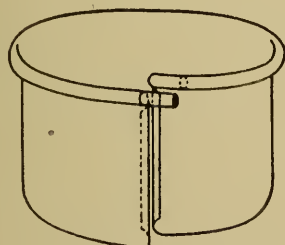

FIG. 3.
5. Place pieces together with burr side of holes up (Fig. 3), and rivet as shown by instructor by beginning at the ends and finishing at the center.
5. Place wire in the turned edge of the metal, (Fig. 2) and finish covering the wire, using wiring machine. (Fig. 3.)
14. Bend laps on prick marks 5 and 6 and place inside. (Fig. 3).
15. Rivet corners together. (Fig. 3).